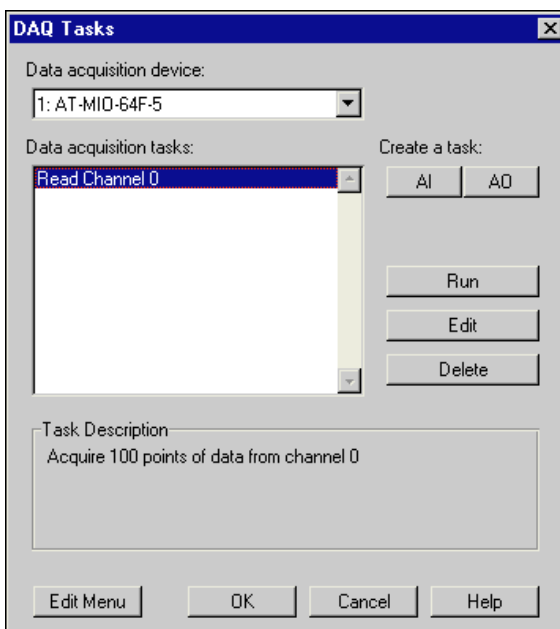

Figure 2-4. DAQ Tasks Dialog Box
7. Click on the **OK** button to return to the DAQ Tasks dialog box, as shown in Figure 2-4. Notice that you now have a task named **Read Channel 0** in your task list and that the description for this new task appears in the dialog box as well.